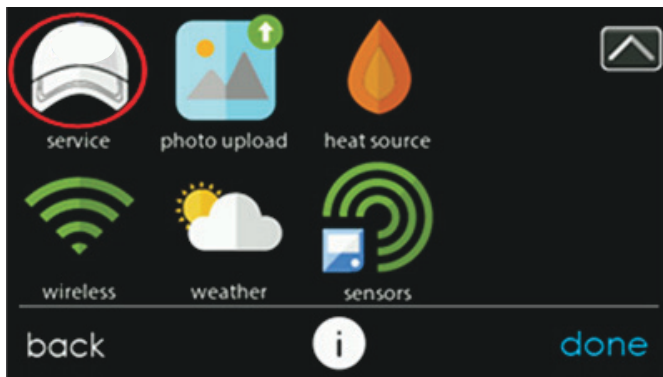
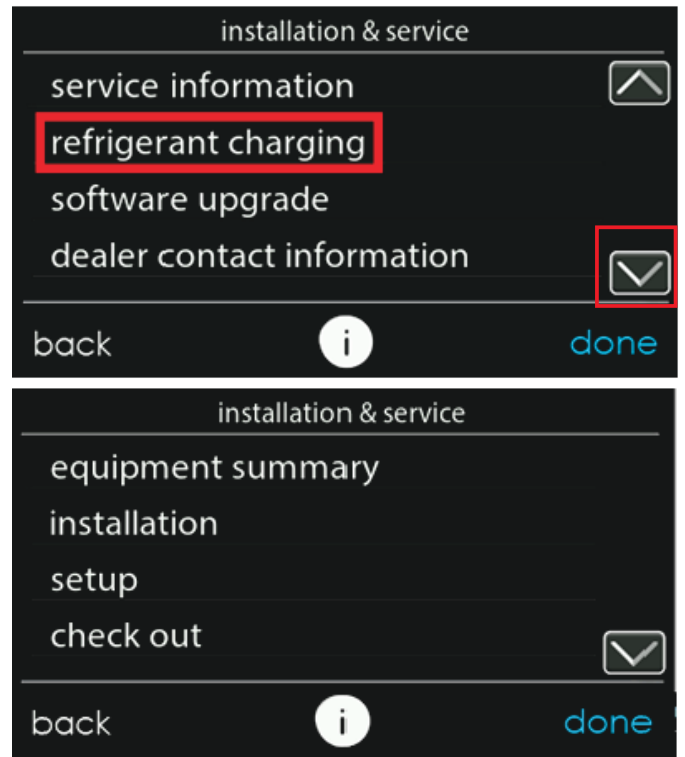
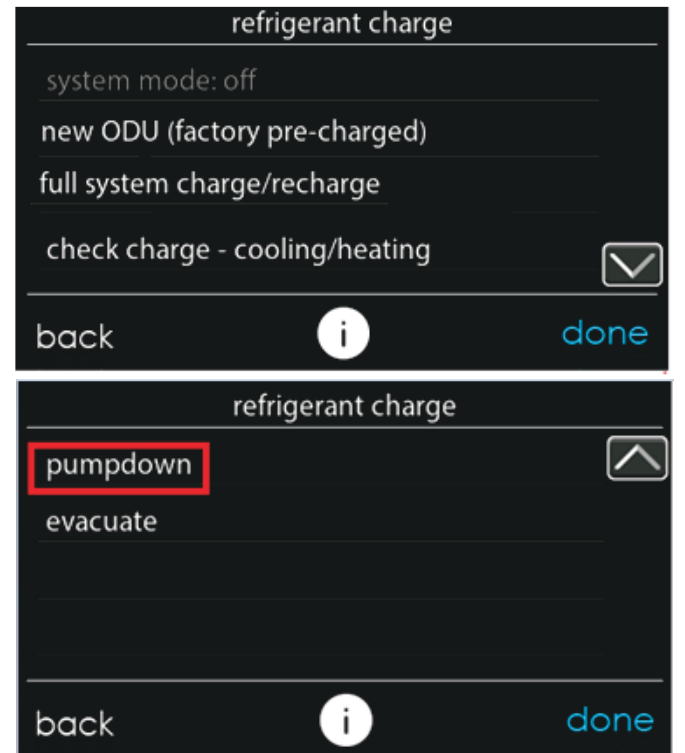

Fig. 38 – Entering Installation and Service Menu
Fig. 39 – Installation and Service Menu
Fig. 40 – Pump Down and Evacuation Selection
2. In the “installation and service” menu of the Infinity® System Control (see Fig. 38), go to “refrigerant charging” and then “pump down” (see Fig. 39 and Fig. 40).
2. In the “installation and service” menu of the Infinity® System Control (see Fig. 38), go to “refrigerant charging” and then “evacuation” (see Fig. 39).